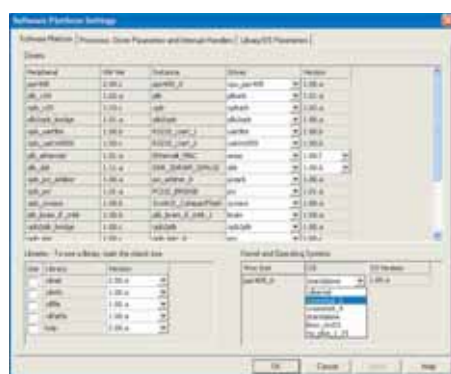

Figure 2 – Setting the embedded OS selection
1. Use the Software Settings dialog box (see Figure 2) to select the OS you plan to use for the system. Platform Studio users can select vxworks5_4 or vxworks5_5 as their target operating system.